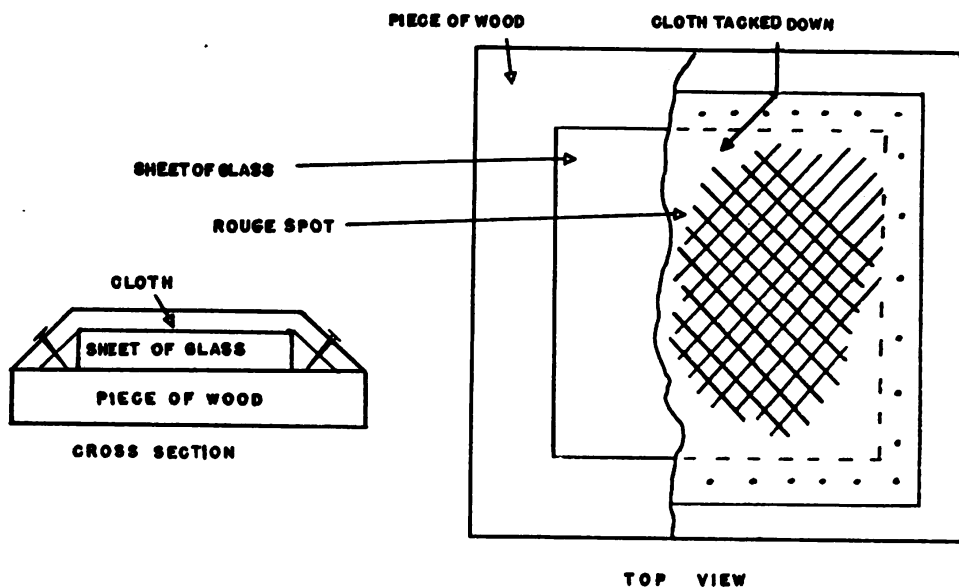

FIGURE 1.
*Step 1.*—Select a coarse abrasive and apply it to one sheet of glass. A patch 3 or 4 inches in diameter will be enough. If you select rouge, it will be necessary to place the glass on a slightly larger board or piece of wood. Tack a folded piece of cloth over the glass to make a pad (see fig. 1) then rub the stick of rouge on the cloth. When the patch is red you have enough. Use the rouge dry.